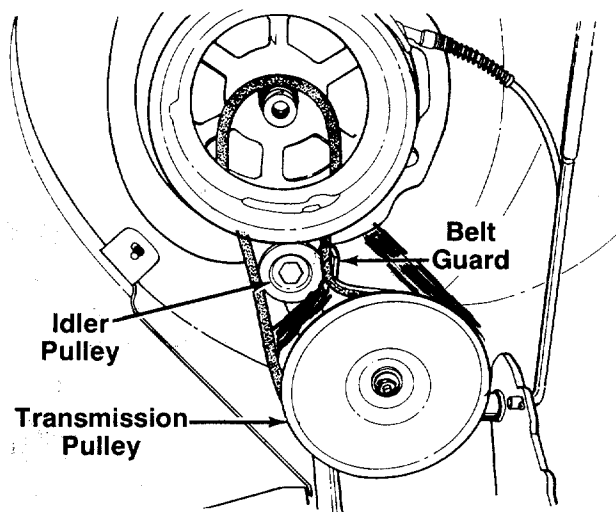

FIGURE 27.
9. Remove belt from around transmission pulley. Remove the belt from between the idler pulley and belt guard shown in figure 27.